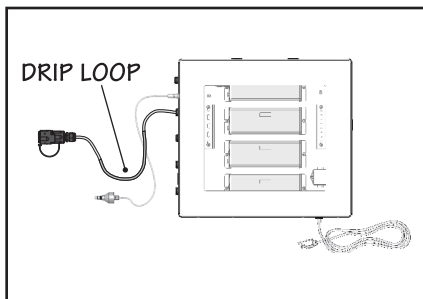
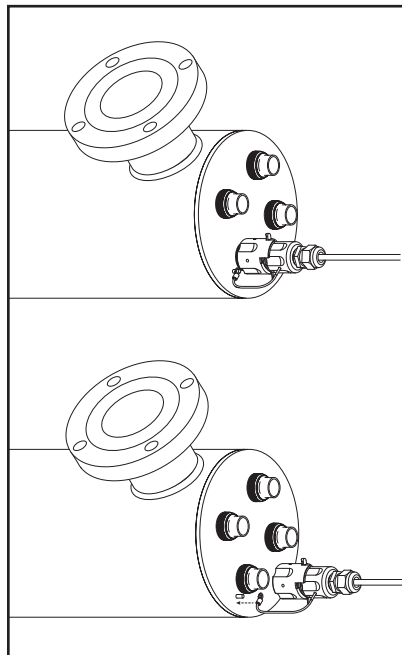

FIGURE 1D
FIGURE 1E
- The enclosure should be mounted either above or beside the reactor chamber. Never mount vertically with AC connector at top of ballast to prevent moisture from running down cordage and causing a potential fire hazard. Drip loops in all cordage connected to ballast controller is highly recommended (see figure 1D).
- ⚠ 4. Mount the Hi-Flo enclosure to the wall, near the reactor chamber. Ideally place the enclosure above the reactor and away from any water connection point, to prevent any water from potentially leaking onto the enclosure by means of a leak at a connection point or a “sweating” system. Make sure you allow for a “drip-loop” (Figure 1D) on the lamp, sensor and power cord, again, to prevent any water from potentially entering the enclosure. Affix the green ground wires to the grounding lug at the end of the reactor vessel and securely fasten with the lugnut provided (Figure 1E).